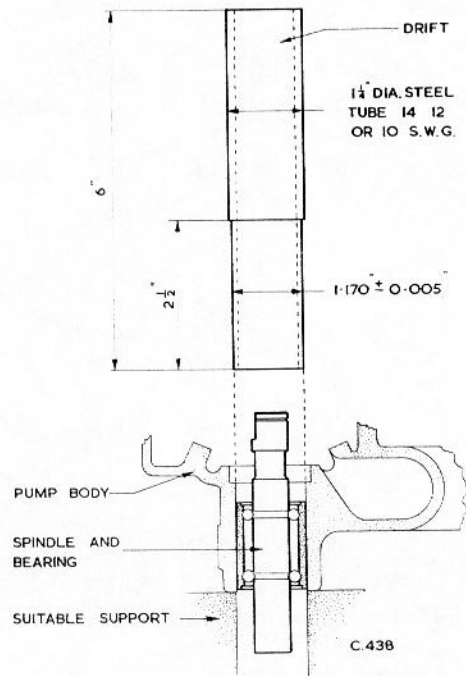

Fig.5 Drift for pump spindle bearings.
9. If the spindle and bearing assembly is considered unserviceable, press or drive it from the pump body by its spindle. If, however, the assembly is to be refitted, do not apply pressure to the spindle but remove the assembly with the hollow drift shown in Fig.5.
spindle bearing with grease. Remove the pump body from the water and place on a suitable surface, impeller chamber downwards. Insert the spindle and bearing, grooved end downwards, aligning the locating hole in the bearing with the locating screw hole in the body. Lightly drive or press the assembly into position, using the hollow drift shown in Fig. 5. If the locating holes are not quite aligned, adjust the position of the bearing with a suitable drift before the body cools. Fit the locating screw and its washer and tighten securely.